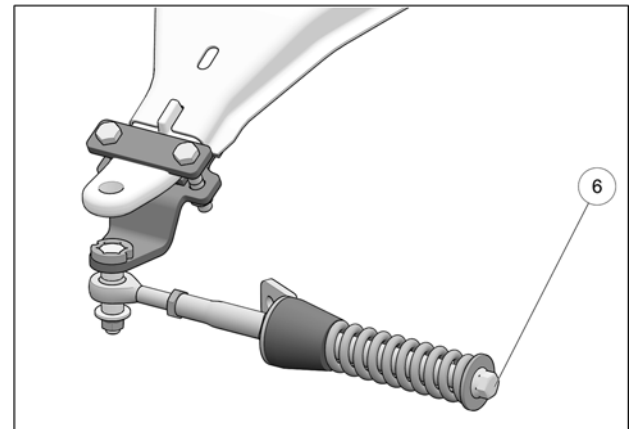

Fig. 20
14. Verify that spring assembly bolt (6) is tightened to the recommended torque specification: 75 N•m [55 lb•ft]. Refer to Fig. 20